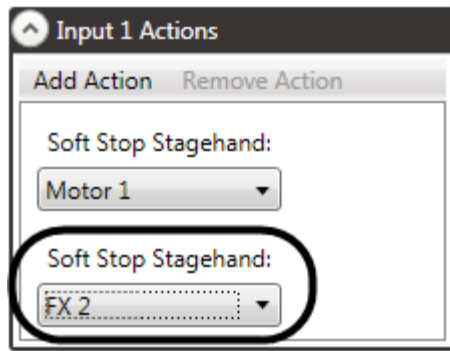

Figure 110
5. Repeat as necessary if you would like a single FX Input to deactivate multiple Stagehands—Motors or FXs (Figure 110).